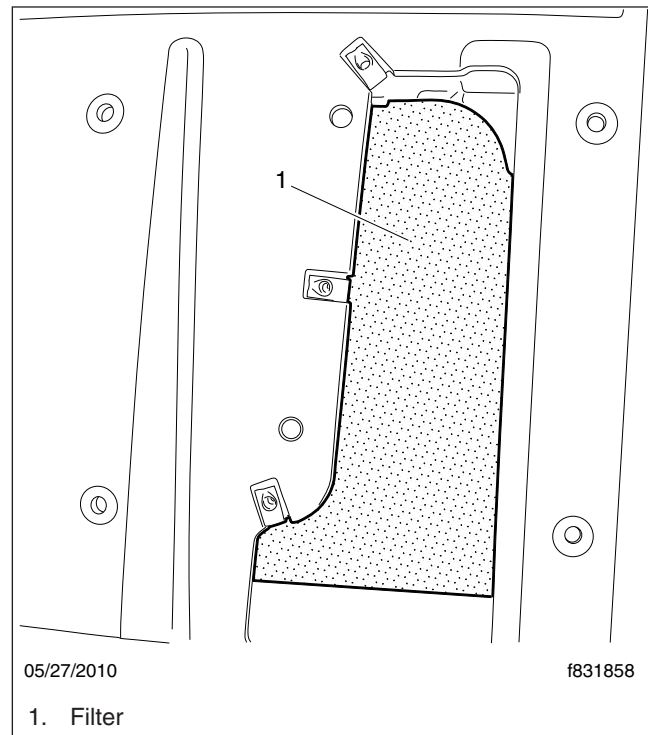

Fig. 9, Removing the BPHS Filter
3. Pull the filter out of the slot. See Fig. 9.